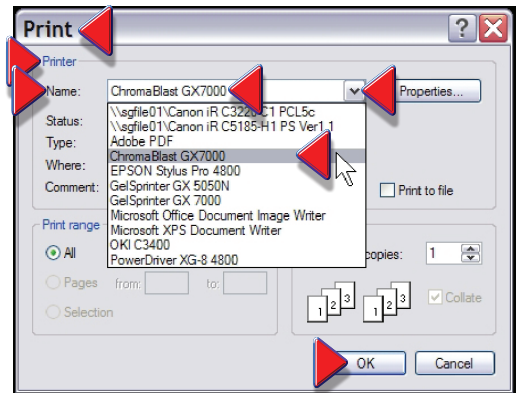

Figure 4
a. In **Adobe Photoshop**, **Print** dialog, **Printer, Name:**, select **Chromablast GX7000** in the drop-down (▼) menu (see Fig 4). **Do not select the Ricoh printer.** Click **OK**.